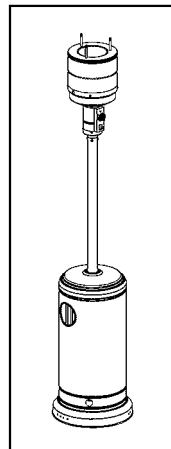

figure 6
2. Rest burner head on top of post (Figure 6).